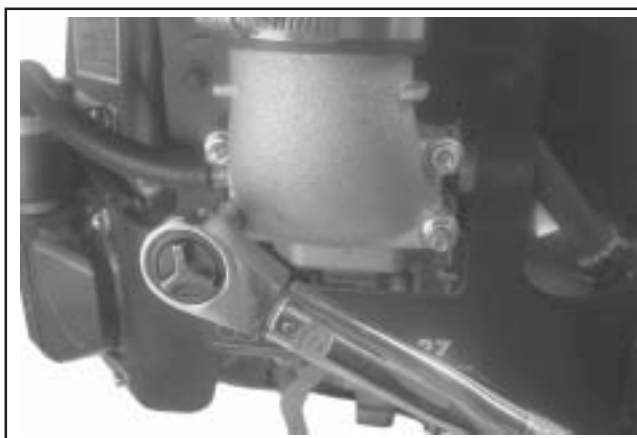

Figure 11-87. Torquing Hex Nuts (Two-Barrel Model Shown).
3. Install the elbow adapter onto the mounting studs. Secure with, and torque the hex flange nuts to **6.2-7.3 N·m (55-65 in. lb.)**. See Figure 11-87.